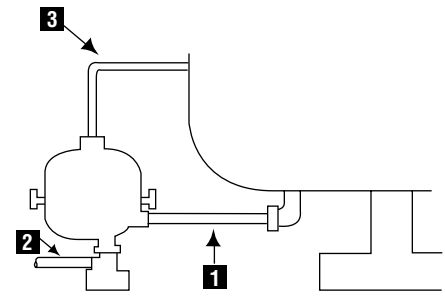

FIGURE 3
- a. Bottom connection drains: Bottom inlet connection drains must be vented by running 1/4" O.D. tubing from the compression fitting on the top of the drain to a place in the system where there is pressure equal to the pressure in the device being drained. See Figure 3.